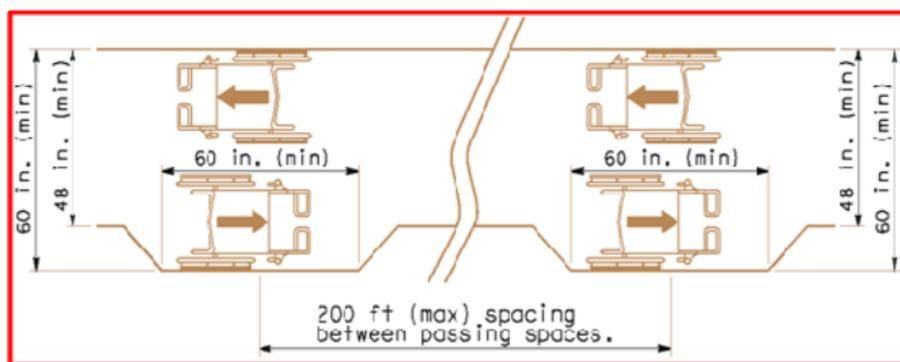

Figure 6. Passing Space
- When it is not possible to maintain a width of 60 inches, a 60 x 60-inch passing space must be provided at least every 200 feet to allow individuals in wheelchairs to pass. (See Figure 6.)